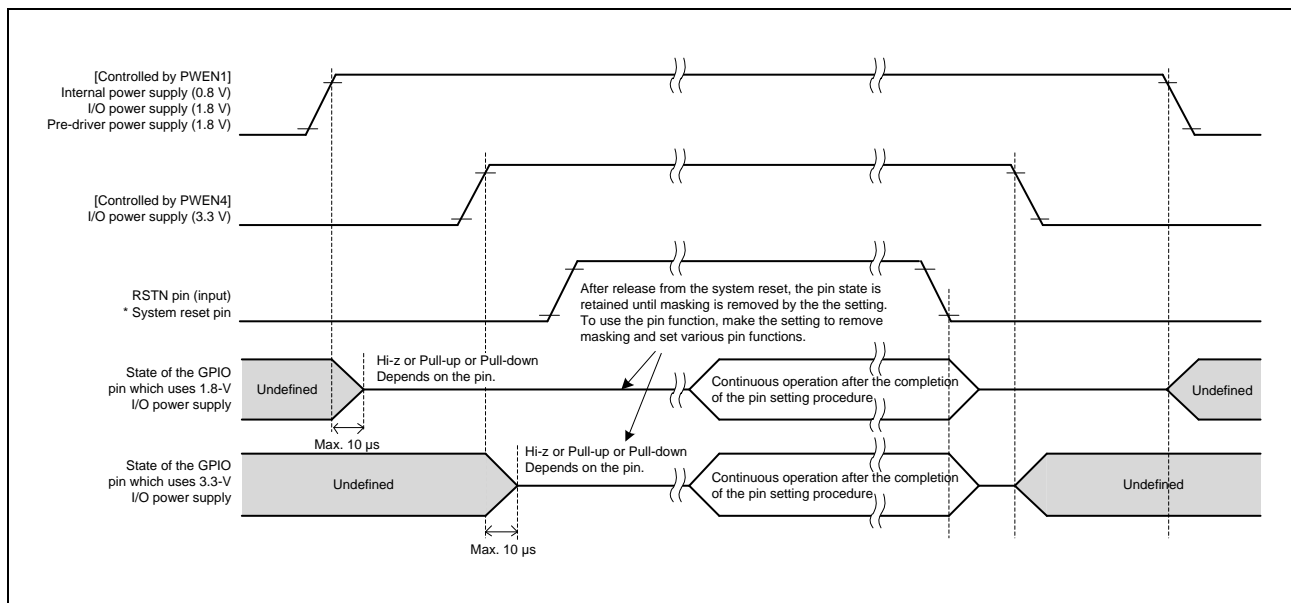

Figure 32.6-1 GPIO Pin States after Release from Reset and Setting
**Figure 32.6-1** shows the states of the pins at that time.